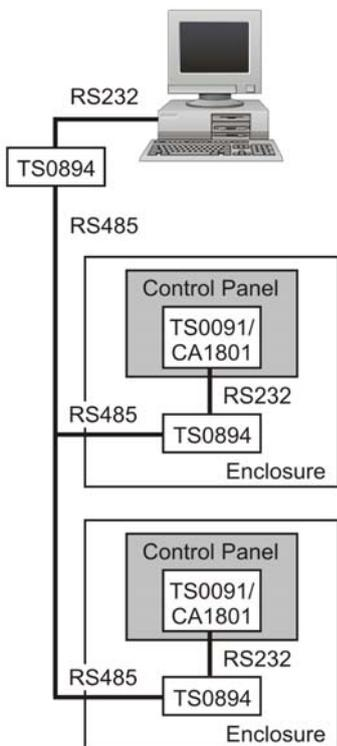

Figure 3: TS0894 used to enable a computer connection with multiple control panels.
- Connecting a computer to as many as six control panels (multi-drop), see Figure 3.